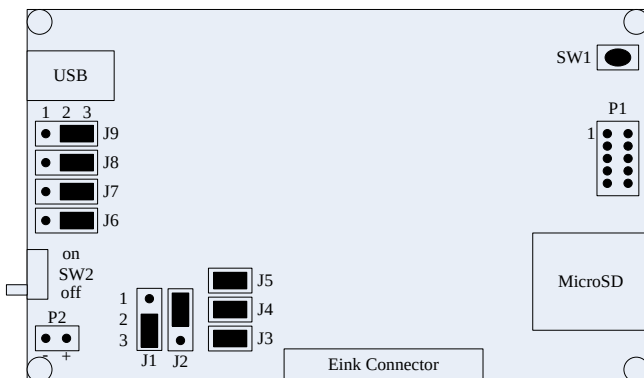

Figure 41. Correct Jumper Positions for External Supply
18. Figure 41 shows correct jumper positions for powering development board with external portable supply for data logger function. SW2 is also used to control the on/off for external supply.
3. External 3V supply, this supply is recommended to use when realizing portable data logger function. High capacity AAA batteries or lithium thin cell as shown in Figure 1 is recommended to support continuous heavy current drawing when saving data in MicroSD. When using external supply, please make sure the jumper J1 is at 2-3 position and J2 is at 1-2 position as shown in Figure 41 (There are notes on PCB board). The on/off of external supply can be controlled by SW2.